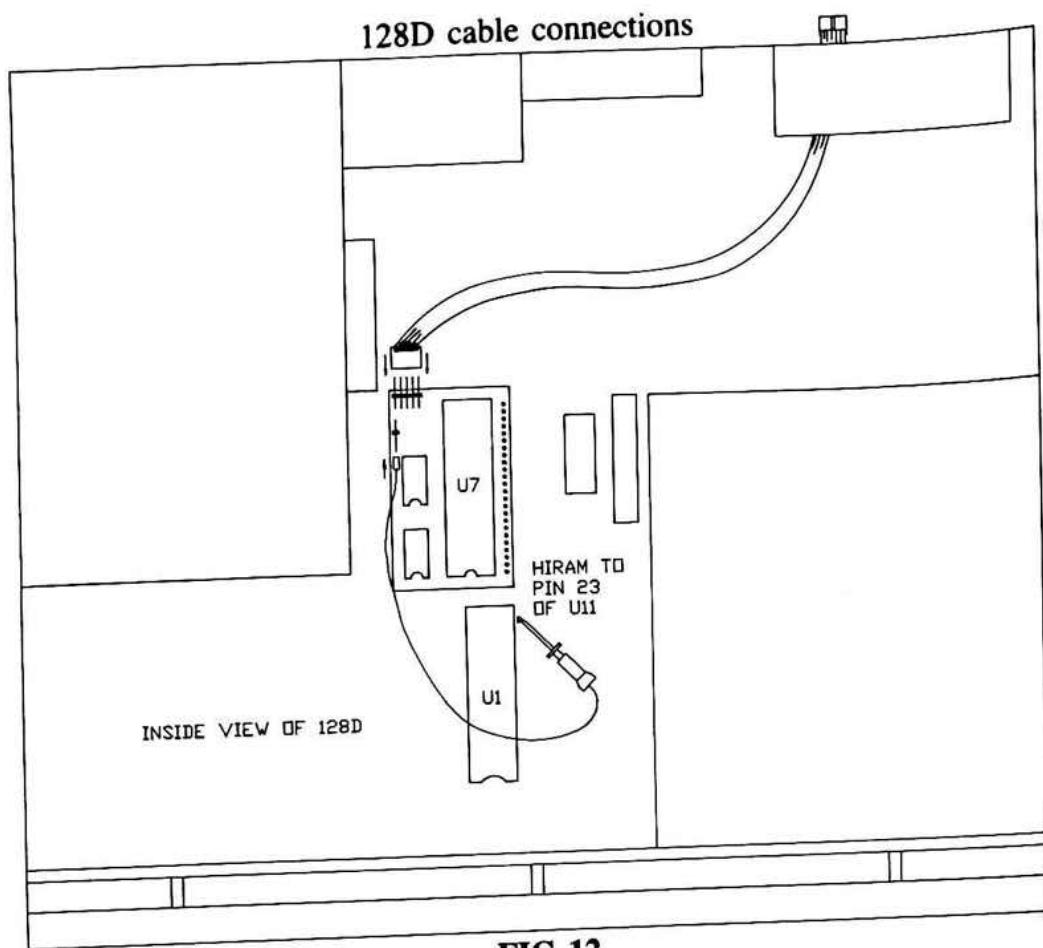

FIG 12
Step 6 - Install the 128D Adaptor Board into the socket vacated in Step 4 as shown in FIG 12. CAUTION: Make sure pins on bottom of adaptor board are in their proper positions before firmly seating into place.
Step 7 - Refer to FIG 12 again and locate HIRAM Cable. Clip this cable to Pin 23 of U11 as shown. Be sure that the clip is not shorting to any adjacent pins of chip U11. Plug the remaining end onto plug P2 of the 128D Adaptor Board as shown. (Note: The CAEC Cable is not used in the 128D installation)
Step 8 - Again refer to FIG 12 and locate the 128 cable. Take either one of the ends and position it so the flat ribbon is coming out of the top side of the connector. Now push this connector onto the plug P1 of the 128D Adaptor Board as shown making sure all ten pins are properly entering each hole on the connector.